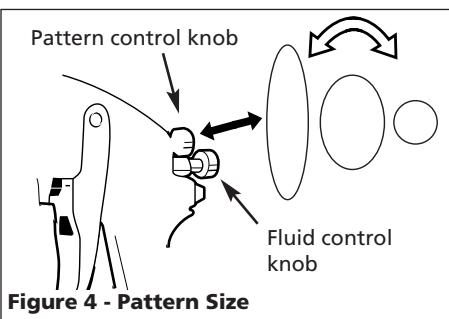

Figure 4 - Pattern Size
2. Set pattern size to desired shape. For full pattern, open pattern control knob by turning counterclockwise. For a round pattern, turn pattern control knob clockwise (See Figure 4).
3. Turn fluid control knob fully clockwise until closed (See Figure 4).
5. Unscrew packing nuts and replace the packing ONLY if a leak will not stop when the nut is tightened (See Figure 4). Do not over-tighten a packing nut because this will restrict movement of the needle.